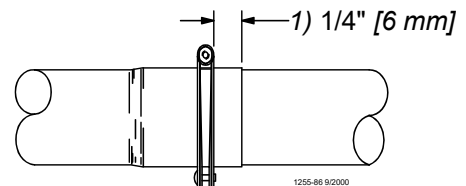

Figure 25. Clamp Installation
1. Rotate the auger tubes so that the seam is down, this holds the Pan Assemblies in place on the tubes. See **Figure 25.**
Continue down the entire length of the feeder line so that every joint is secured with a standard Clamp or Clamp/Anti-Roost Bracket. **Figure 25.** shows the proper clamp location on the tube joint. *Do not tighten the clamp at this time.*
- make sure the clamps are located, as shown in **Figure 25.**